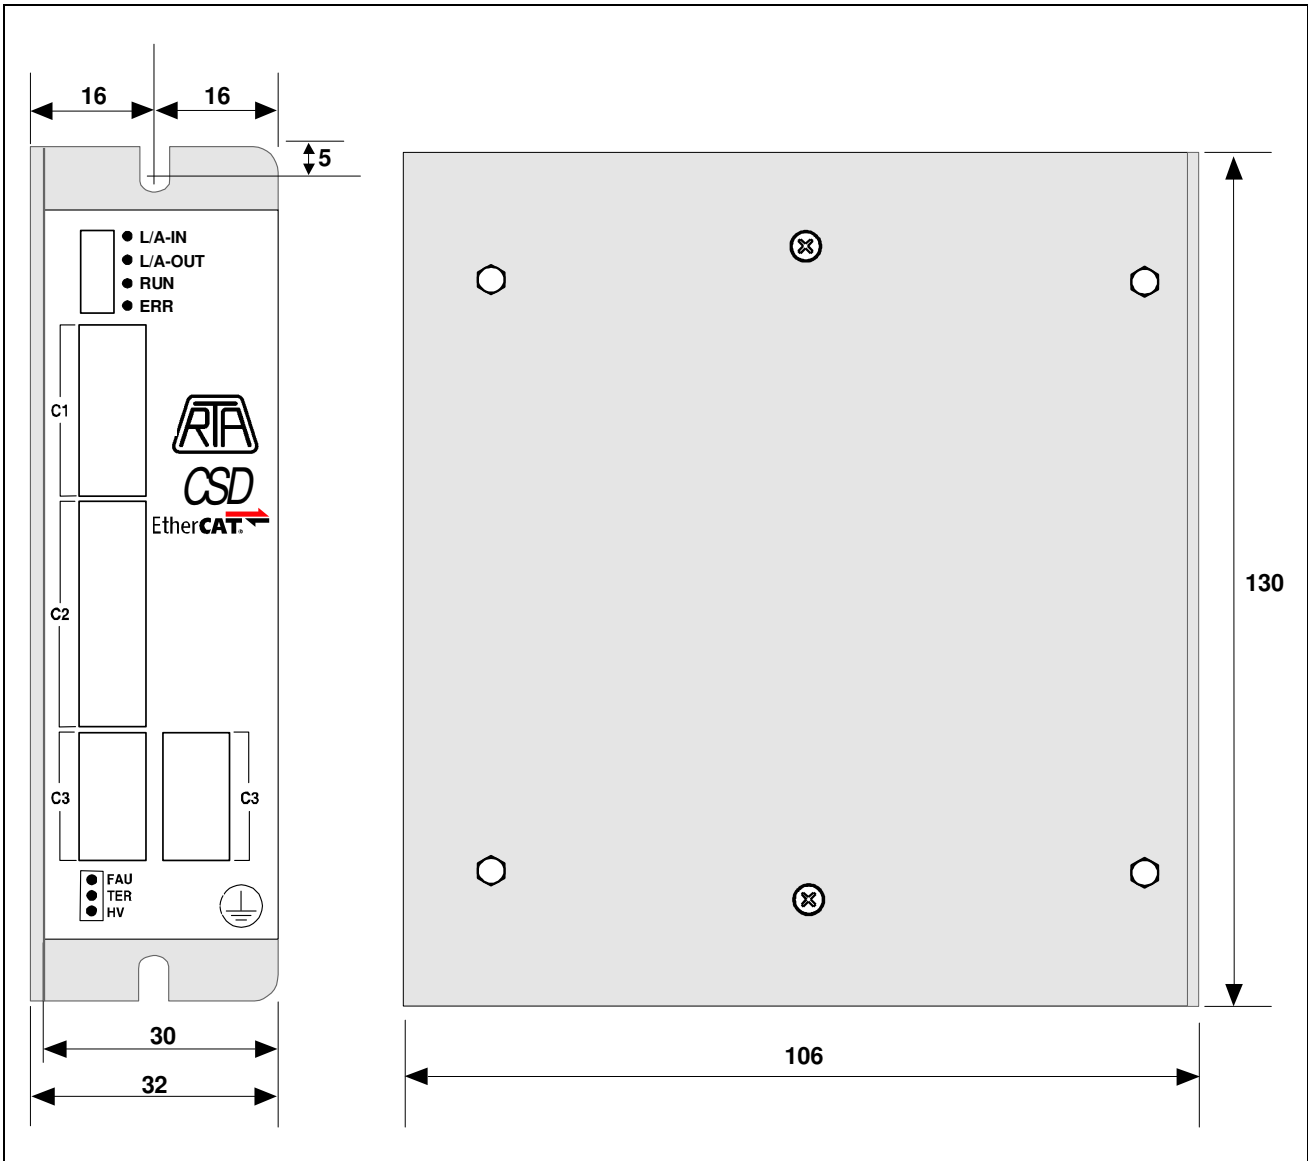

Fig. 2 – Dimensions: all measures in mm.
(C3 Connector, see Fig. 2, 5 and 7)
4.3 - ENCODER INPUTS AND POWER SUPPLY (C1 Connector, see Fig. 2, 5 and 7)